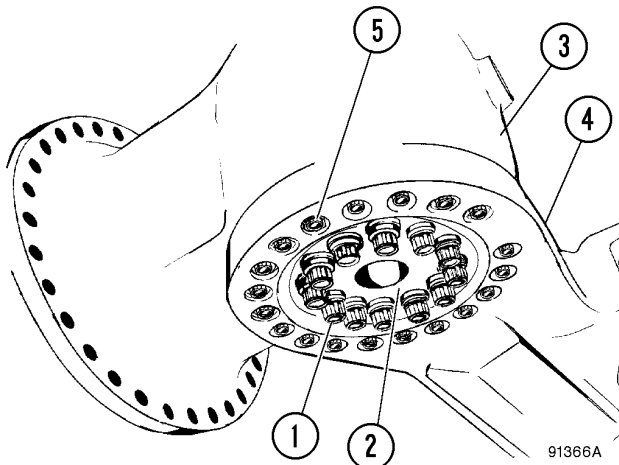

FIGURE 3-2. STEERING ARM ASSEMBLY
7. Disconnect brake cooling oil lines (4) at the inlet and outlet ports on the brake housing. Plug the hoses and ports to help prevent contamination.
9. Remove drain plug (2) and drain the oil from the brake housing and hub bearings into a suitable container.
12. Position a fork lift under the wheel hub and spindle assembly as shown in Figure 3-2. The weight of the spindle assembly is approximately 6 652 kg (14,665 lb). Ensure the lifting device can handle the load safely. Ensure the spindle and hub are securely fastened to the lifting device to prevent tipping when it is free from the suspension.
13. Remove capscrews and washers (1, Figure 3-2) that secure retainer plate (2) to the spindle structure and suspension. To prevent thread damage, loosen the capscrews in a circular pattern in torque increments of **678 N·m (500 ft lb)**. Remove the retainer plate.
14. Remove 16 steering arm capscrews (5, Figure 3-2) as follows:
5. Lubricate capscrews (1, Figure 3-2) and (5) on the threads and seats with lithium based chassis grease (multi-purpose, EP NLGI).
6. Secure the spindle to the suspension using retainer plate (2) and capscrews (1). Tighten the capscrews using the following procedure: